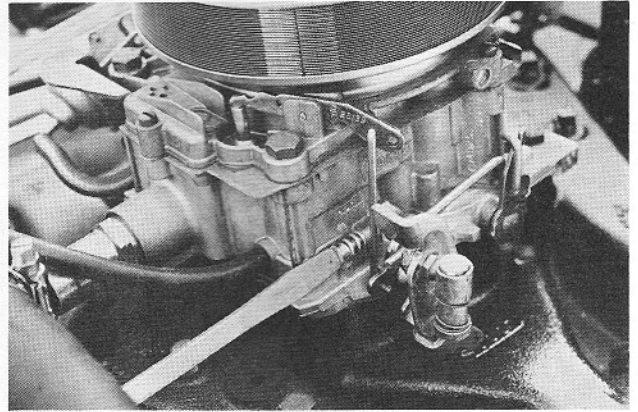

Figure 27
- C. Start engine and allow to idle. Set idle speed to that specified for ignition timing. (See Engine Specifications, page 19.) Turn adjustment screw clockwise (CW) to increase idle speed (Figure 27).